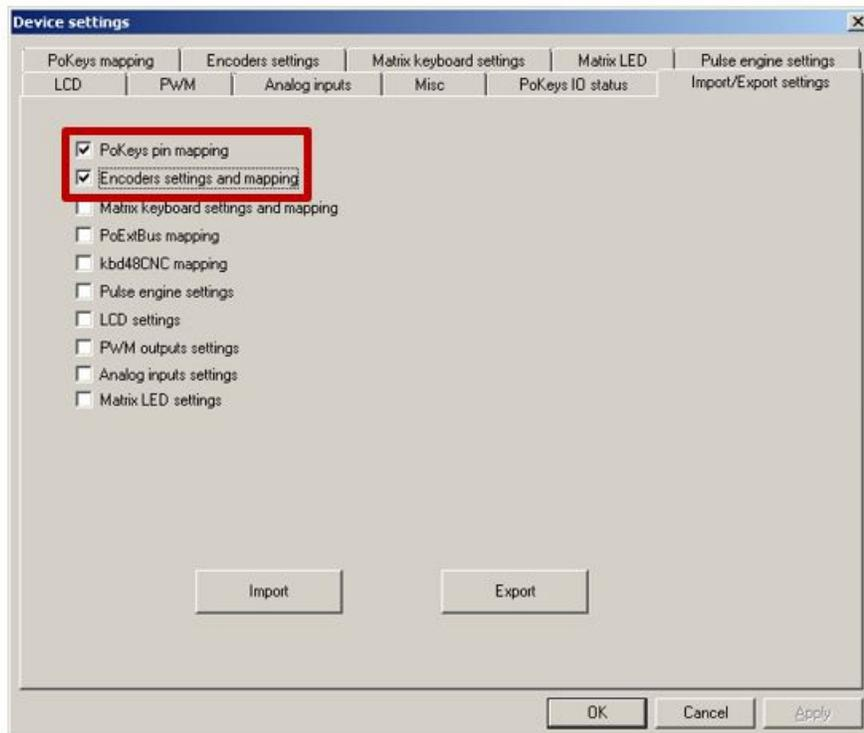

Figure 11 - Pokeys Settings Import
14. Check PoKeys pin mapping and Encoders settings and mapping (see Figure 11)